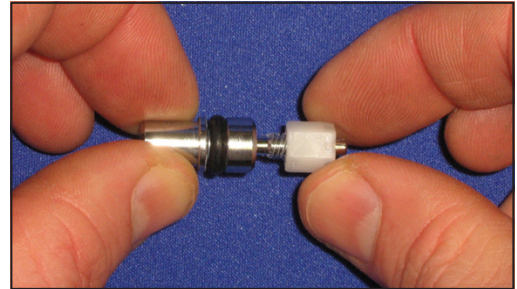

Fig. 34
16. Lightly lubricate and install the **ADJUSTMENT SHAFT O-RING (33)** onto the groove on the **ADJUSTMENT SHAFT (34)**. (Fig. 34)